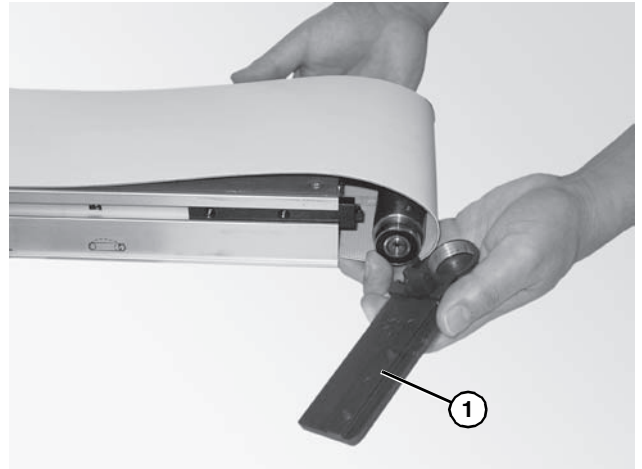

Figure 49
2. Remove the head plate (Figure 49, item 1) from the conveyor frame.